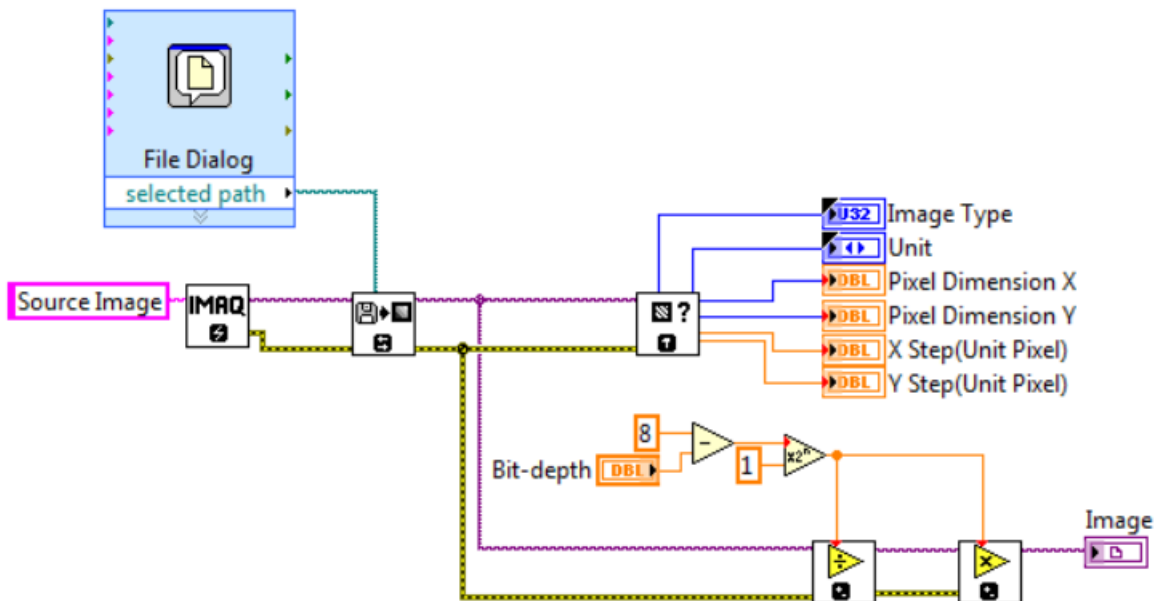

Figure 7: Block Diagram of Exercise 2
2. Modify the **Block Diagram** as shown in Figure 7 by executing the following steps.